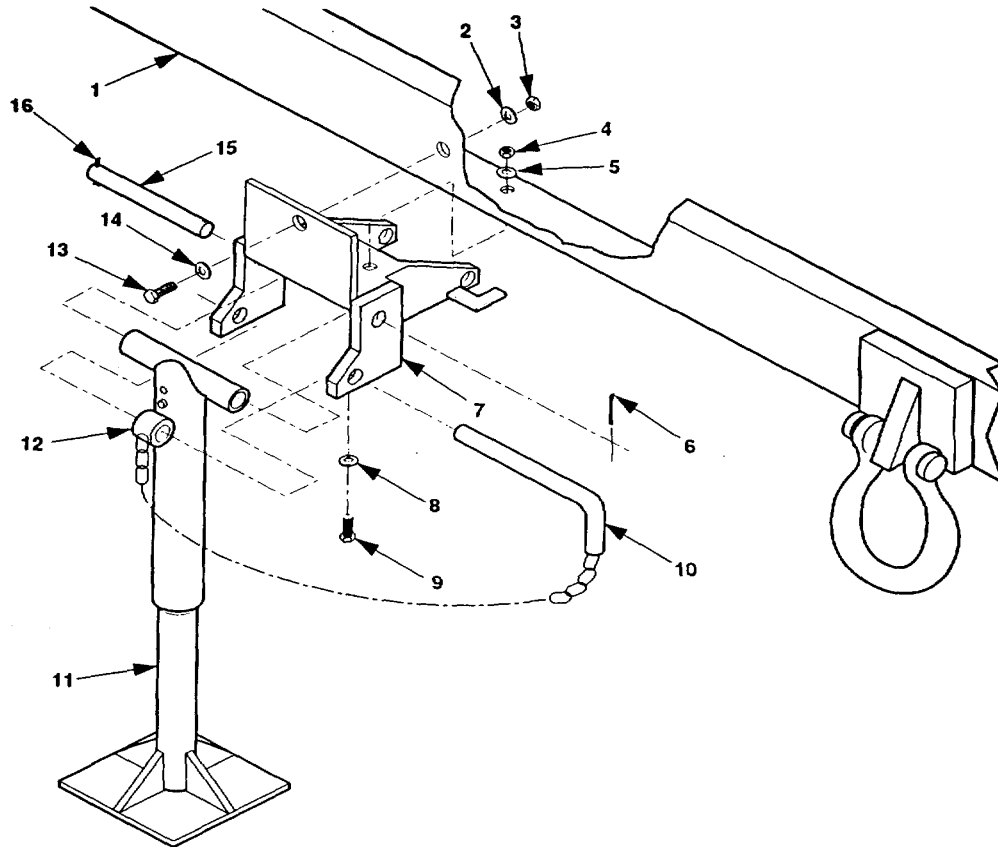

Figure 4-27. Rear Leveling-Support Jack Replacement, 1 Ton Trailer.
2. Turn leg base (11, figure 4-27) to take weight off leg prop.
3. Remove either one of two cotter pins (16 or 6) from pivot shaft (15) and discard.
4. Hold leg base (11) steady and remove pivot shaft (15) with remaining cotter pin (16 or 6) in place.
5. Lift leg base (11) slightly to take weight off retaining pin (10) and remove retaining pin (10). Move leg base (11) and attached parts out of bracket (7).
6. Remove two self-locking nuts (4), four flat washers (5 and 8), and two cap screws (9).
7. Remove self-locking nut (3), two flat washers (2 and 14), and cap screw (13). Remove bracket (7) from trailer chassis (1).
- a. Clamp leg assembly in a vise with spring pin (2, Figure 4-27) facing up.
- b. Drive the spring pin (2) out of upper leg (1) and remove leg base (4).
- c. If defective, remove lubrication fitting (3).
- d. Inspect upper leg (1) and leg base (4) for damage. If either needs to be replaced, replace entire trailer rear leveling-support jack.
1. Install bracket (7, figure 4-27) on trailer chassis (1), with flat washer (14) and cap screw (13), through mounting hole in bracket (7) on trailer chassis (1).
2. Install flat washer (2) and a new self-locking nut (3) on cap screw (13).
3. Install cap screws (9), flat washers (8 and 5), and new self-locking nuts (4).
4. Position leg base (11) and attached parts in bracket (7) and install retaining pin (10).
5. Position leg base (11) and install pivot shaft (15).
6. Install new cotter pin (16 or 6) in pivot shaft (15).